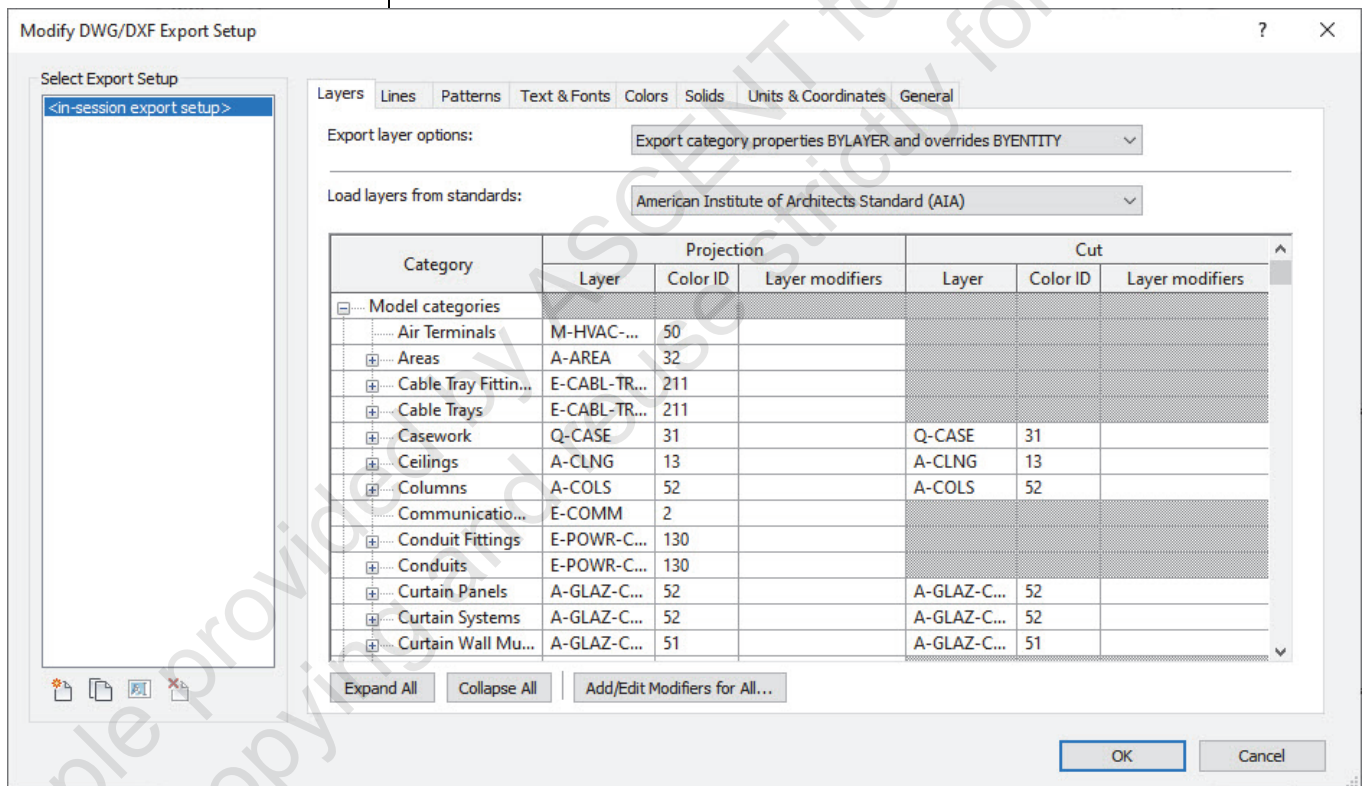

Figure 1–76
2. The Modify DWG/DXF Export Setup or Modify DGN Export Setup dialog box contains all of the elements and types you can export. You can select an existing layer standard provided with the program (as shown in Figure 1–76) or create a new one.